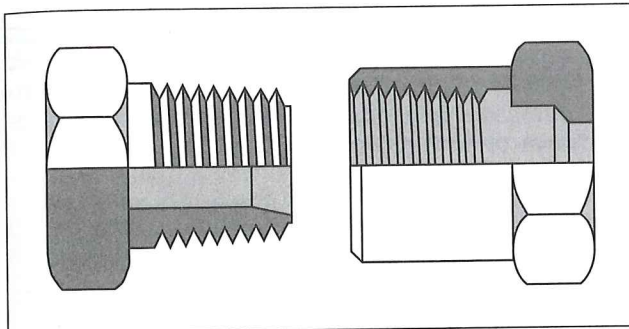

Fig. 9-26 — Pipe threads seal by metal-to-metal interference.
**Pipe threads.** The threads seal by metal-to-metal interference between fitting and housing, Fig. 9-26. They are widely used, inexpensive, and suitable for low-pressure service.